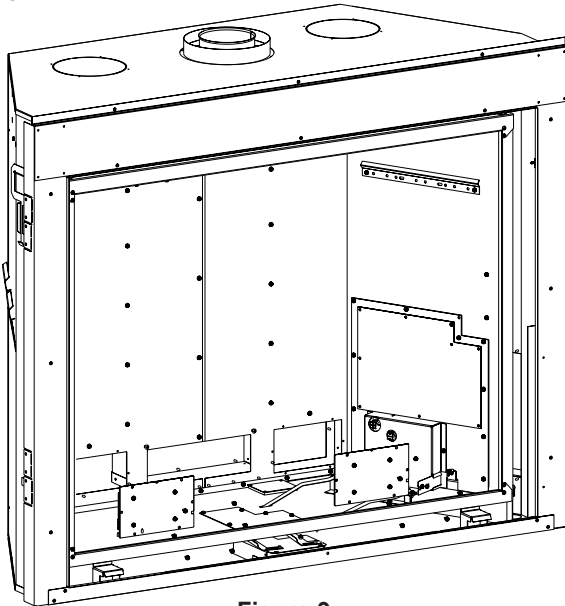

Figure 9
4. Remove Blower Brackets by taking out (6) screws each. See **Figure 9**.